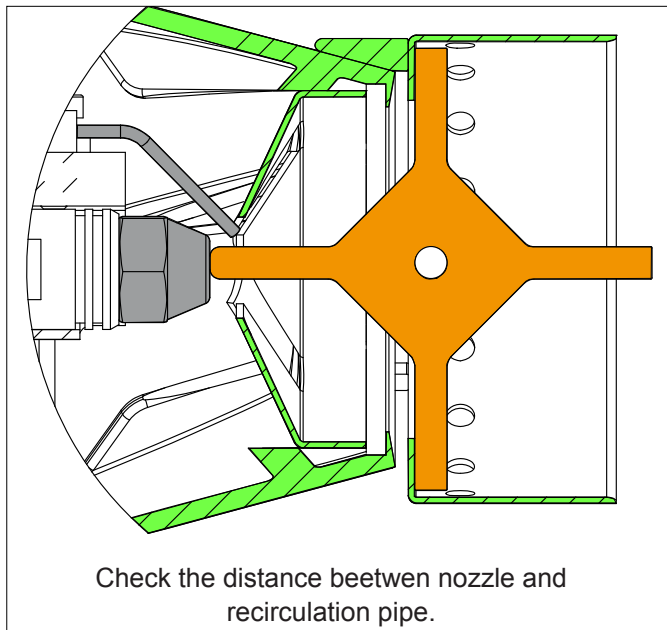

Figure 10-5: Checking the diffuser position using the gauge provided
- Refer to Table 2-2 for the required distance (diffuser setting) for the boiler output required. This is the distance from the front face of the nozzle to the internal shoulder of the burner head. Refer to Figure 10-5.
- If the diffuser setting is correct, the tip of the gauge leg will just touch the front face of the nozzle, with the gauge still in contact with the internal shoulder of the burner head on BOTH sides. Refer to Figure 10-5.